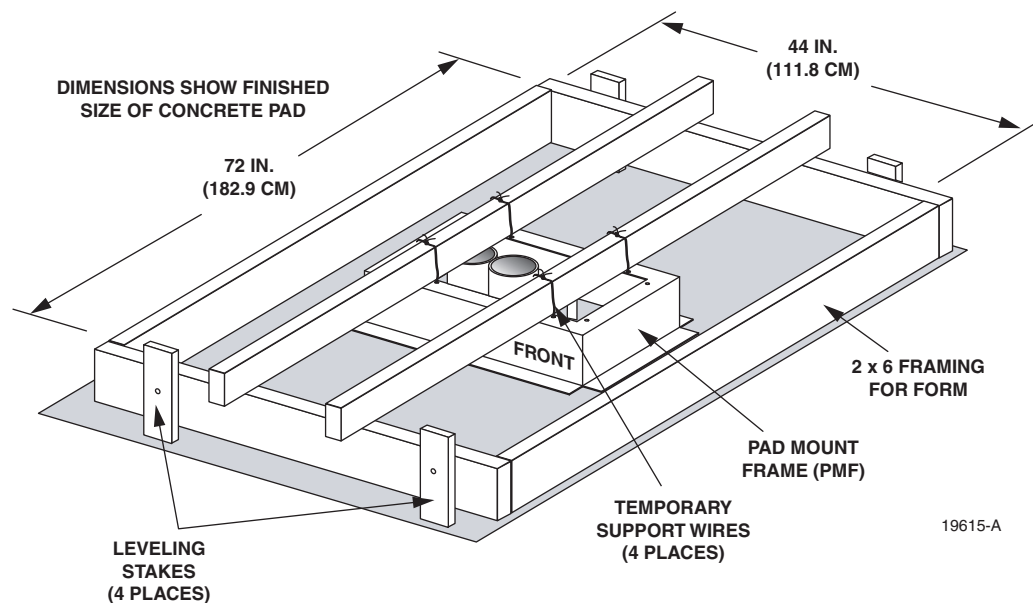

Figure 9. ACE-142S Cabinet Concrete Pad Framing
1. Build a wood form for the concrete pad using 2 x 6 framing lumber as shown in Figure 9.
- **Note:** Use temporary top framing to keep the top surface of the PMF flush and level with the top of the concrete pad (see Figure 9).